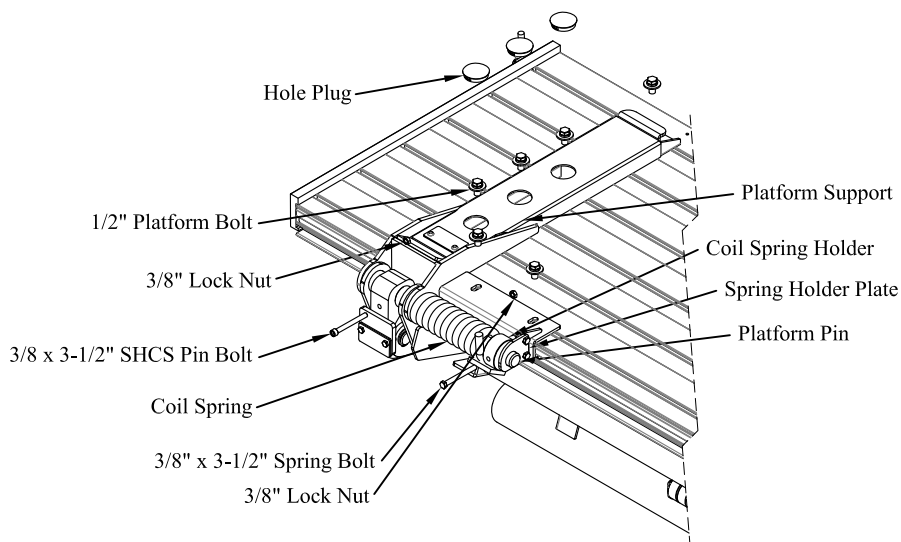

Figure 9: Platform Hardware (other side similar).
1. **BOLT** the new platform supports to the bottom of the main platform section (Figure 9).
7. **ALIGN** holes in platform pins with holes in platform links so groove for coil spring holders is on top (Figure 9).
8. **APPLY** Anit-Seize to the 3/8" x 3-1/2" SHCS pin bolts and **INSTALL** (Figure 9).
9. **INSTALL** coil springs, coil spring holders and spring holder plates (Figure 9).
10. **INSTALL** the 3/8" x 3-1/2" spring bolts (Figure 9).